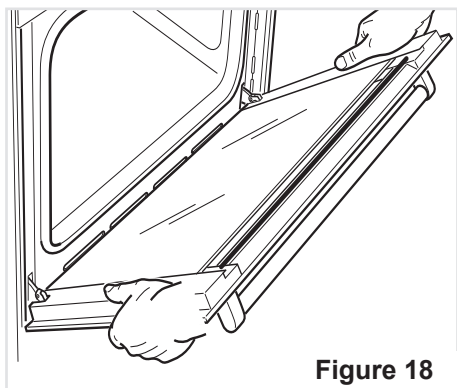

Figure 18
- Hold the door as shown in fig. 18.